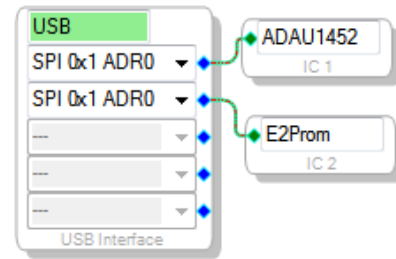

Figure 63. E2Prom Setup in Hardware Configuration Tab
3. Set the communication mode to **SPI 0x1 ADRO** (see Figure 63). (There is no physical connection between the USBi connector and the EEPROM on the EVAL-ADAU1452MINIZ. SigmaStudio writes a small program to the ADAU1452, which then writes the self-boot data from its master SPI port to the EEPROM.)